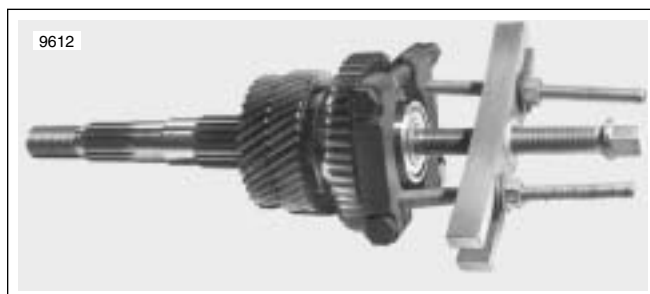

Figure 7-23. 1st Gear Bearing Removal
6. See Figure 7-23. Remove and discard 1st gear bearing.